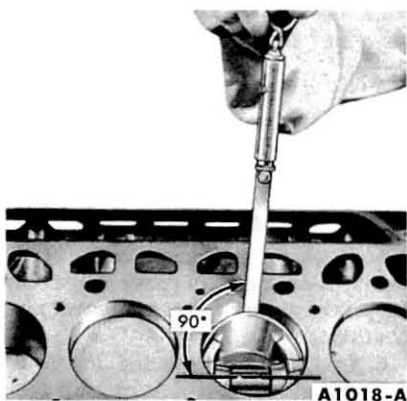

FIG. 20—Checking Piston Fit
7. Hold the piston and slowly pull the scale in a straight line with the ribbon, noting the pull required to remove the feeler ribbon (Fig. 20).